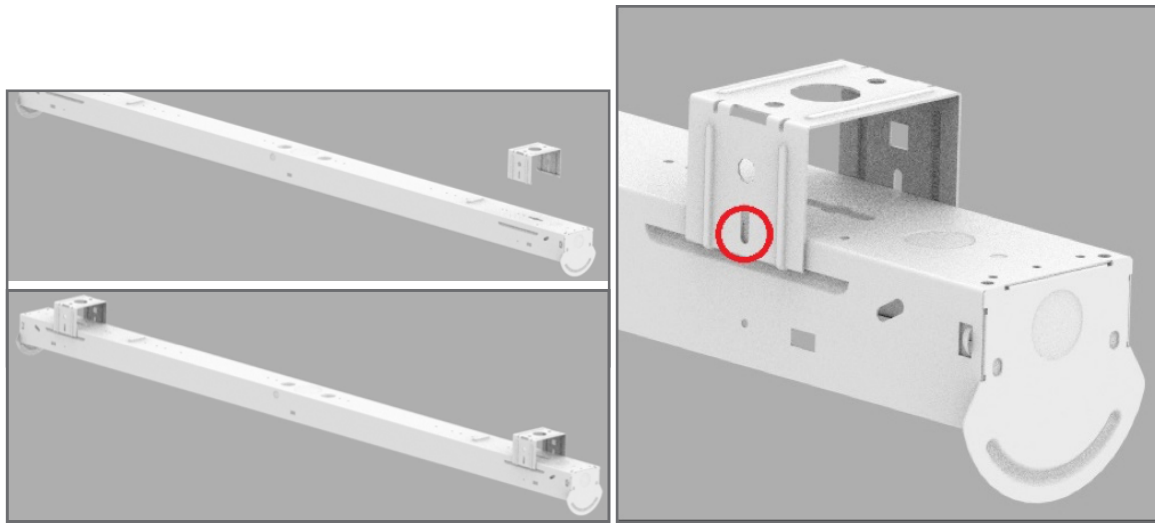

FIGURE 15
4. Press the housing into the tong hanger brackets so that it snaps into place, as shown in Figure 15. It is recommended to place a self-drilling screw (by others) at the circled location for increased security.